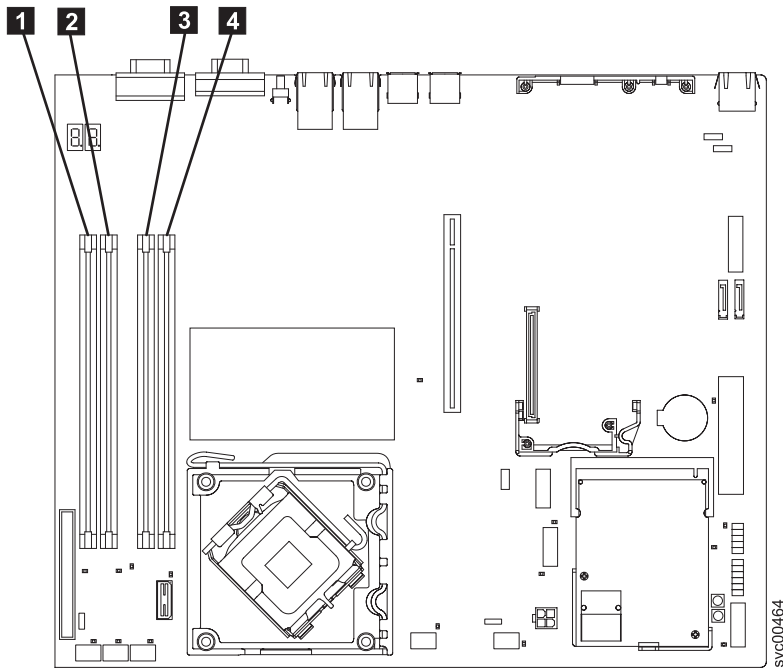

Figure 92. Locating the SAN Volume Controller 2145-8A4 memory modules
- SAN Volume Controller 2145-8A4: These modules are numbered **1** through **4**, as shown in Figure 92 on page 104.